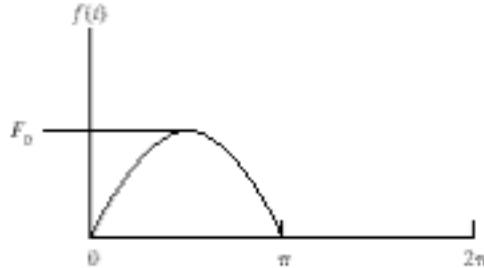

Figure P3.16
- 3.16** Calculate the response of an underdamped system to the excitation given in Figure P3.16.
$$F(t) = F_0 \sin(t) \quad t < \pi \quad (\text{From Figure P3.16})$$